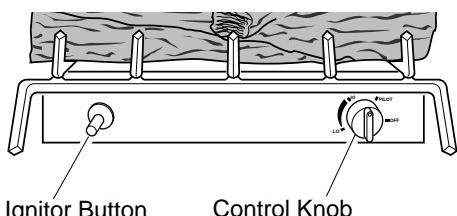

Figure 23 - Control Knob and Ignitor Button Location
4. Wait five (5) minutes to clear out any gas. Then smell for gas, including near the floor. If you smell gas, STOP! Follow "B" in the safety information. If you don't smell gas, go to the next step.
5. Slightly depress and turn control knob counterclockwise  to the PILOT position. Press in control knob for five (5) seconds (see Figure 23).